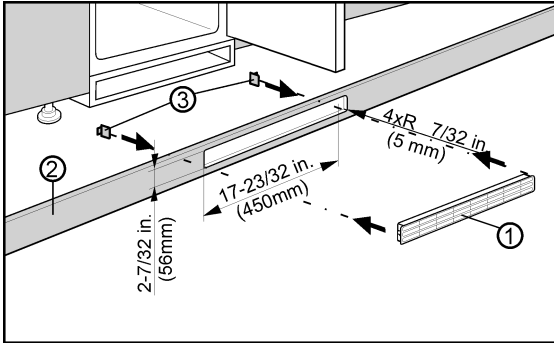

Fig. 7
Ventilation from underneath through the floor of the kitchen cabinet can be set up with the supplied ventilation grid *Fig. 7 (3)* or an air vent with at least a 31 in² (200 cm²) cross section area. If you use the supplied ventilation grid *Fig. 7 (1)* please proceed as follows:
- ▶ Insert the ventilation grid *Fig. 7 (1)* into the cut out in the cabinet floor *Fig. 7 (2)*.
- ▶ Slide the snap connectors *Fig. 7 (3)* into the grid from behind until the hooks touch the cabinet floor.